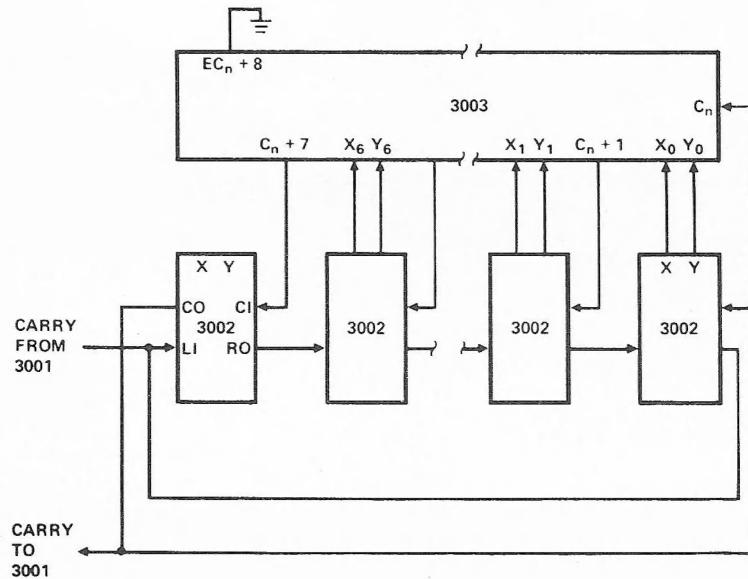
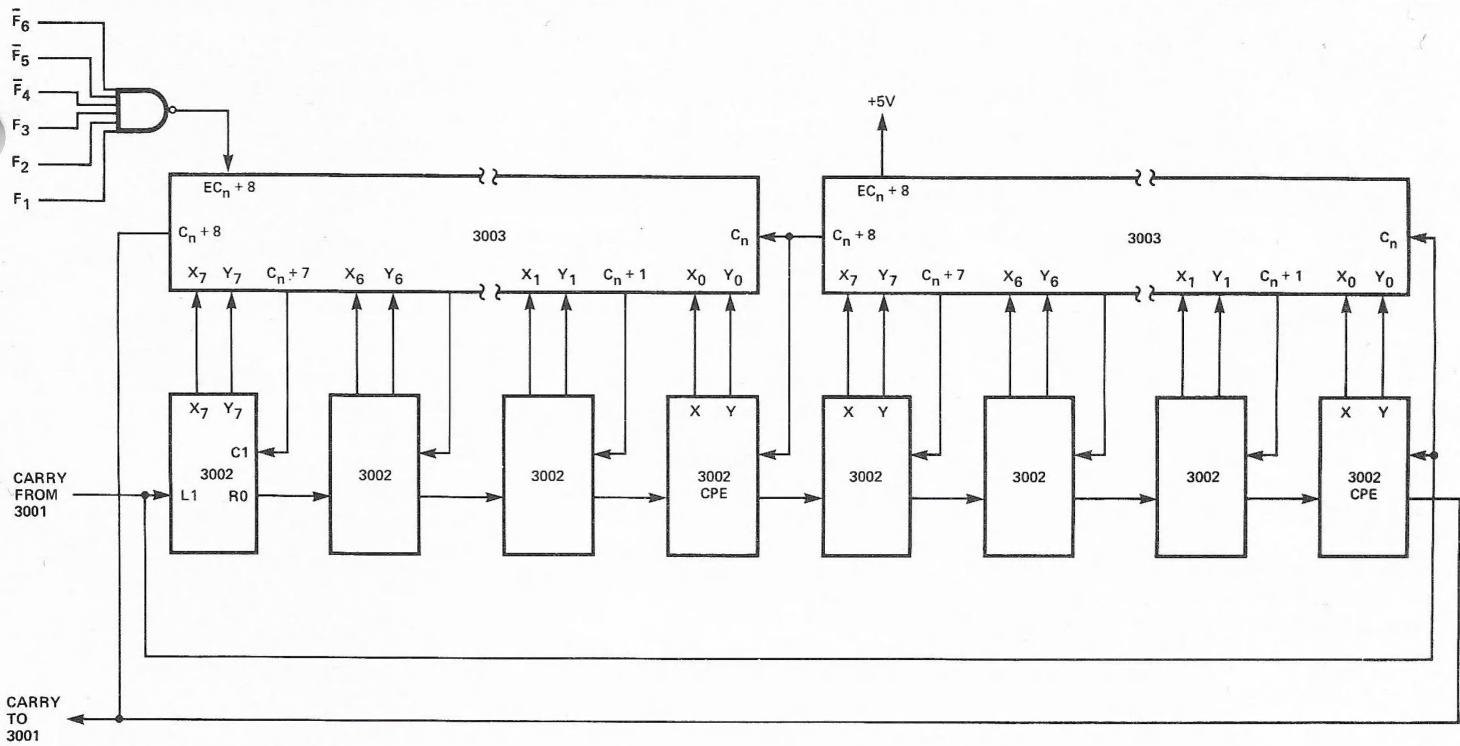

Figure 1. Carry Look-Ahead Configuration with Ripple through the Left Slice (16-Bit Array)
Figure 3. Carry Look-Ahead Configuration with No Carry Ripple through the Last Slice (32-Bit Array)
The 3003 LCG can be directly tied to the 3001 MCU and a 3002 CP array of any word length. The following figures represent typical configurations of 16- and 32-bit CP arrays. Figures 1 and 2 illustrate use of the 3003 in a system where the carry output (CO) to the 3001 MCU is rippled through the high order CPE slice. Figure 3 illustrates use of the 3003 in a system where tri-state output C_{n+8} is connected directly to the flag input on the 3001 MCU. C_{n+8} is disabled during shift right by decoding that instruction externally, thus multiplexing C_{n+8} with the shift right (RO) output of the low order CPE slice.